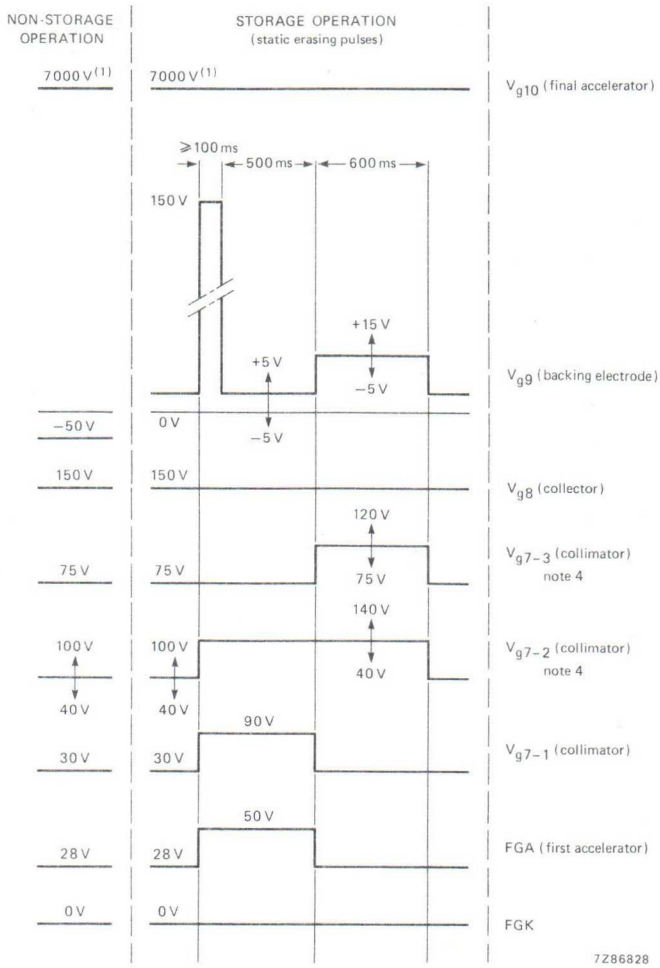

Fig. 9 Diagram of non-storage and storage operation.
See Fig. 9.
b. Static erasure (Fig. 9)